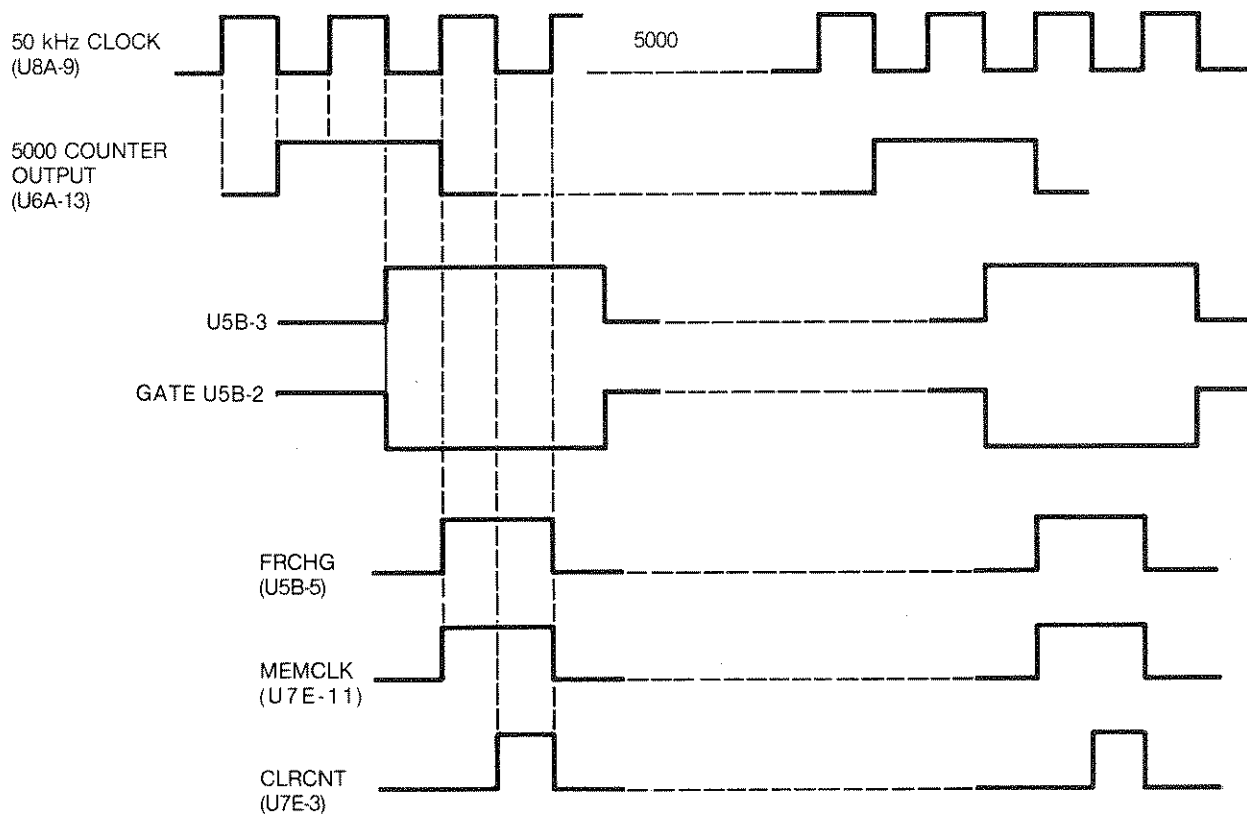

Figure 4-5. Timing Generation
Four divide-by-10 counters (U5A, U6A) together with control devices, produce the GATE, MEMCLK, FF, and CLRCNT pulses which control the frequency generator circuit. Figure 4-5 shows the timing diagram for the counters.
line goes low, which inhibits the control flip flop. Approximately  $20\ \mu\text{s}$  after the GATE line inhibits the flip flop, the CLRCNT line clears the flip flop and counter, and when the GATE line returns high, the frequency counter again counts the frequency. For GATE and CLRCNT timing relationships, see figure 4-5.
every 100 ms, see figure 4-5 for timing relationships. When the stabilizer is enabled, the MEMCLK line goes low holding the frequency data (displayed frequency) stored in the latches.
**8-Bit Up/Down Counter:** The 8-bit up/down counter (U9F, U8F), controlled by two lines from the frequency comparator, uses its output to increment or decrement the DAC. Table 4-4 illustrates how the comparator controls the up/down counter. The counter preloads (1000 0000) for stabilizer to the center of the counter's range; for sweep modes it load to the bottom of the counter's range. If the stabilizer is on, the FRCHG pulse clocks the counter every 100 ms; see figure 4-5. In sweep modes FRCHG rate varies depending on the sweep time. When the stabilizer is turned on, the STAB line from the misc control logic goes high to enable the counter. For stabilizer off, the STAB line goes low and on the next FRCHG clock transition the outputs all go to a TTL low, except the most significant bit which is held high. The eight data lines from the counter directly drive the inputs of the frequency correction DAC.